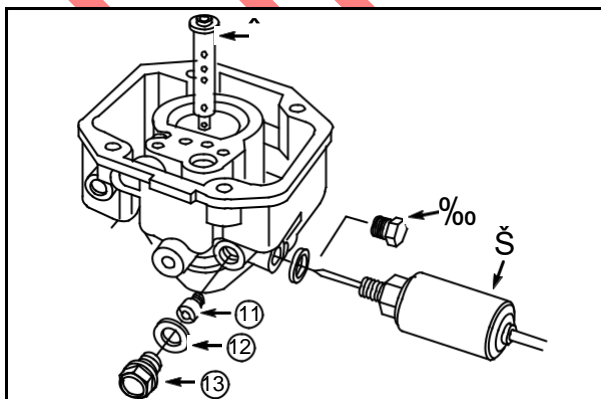

Fig. 100
Remove anti-afterfire solenoid (10) or plug (9), **Fig. 100**.